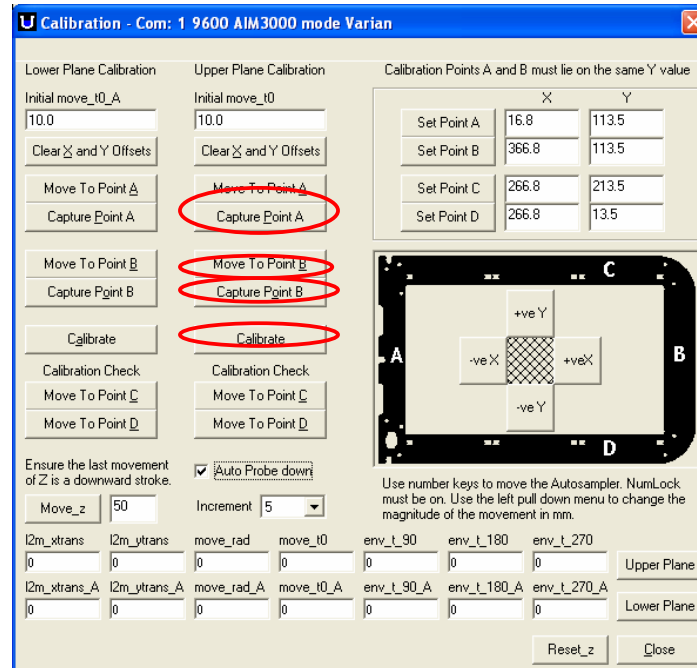

Figure 13: Capturing Point B
- Once the probe is positioned over the point A dimple, then select the *Capture Point A* button (Figure 13).
6. Move the probe to position B (*Move To Point B*) Figure 16, and follow the same alignment process as mentioned for the position A calibration. Once you are happy with the probe alignment over position B (Figure 16) in the alignment tool, click the *Capture Point B* button (Figure 13). Click the *Calibrate* button (Figure 13) to lock in the new calibration coordinates. There is no need to check Point C and D.